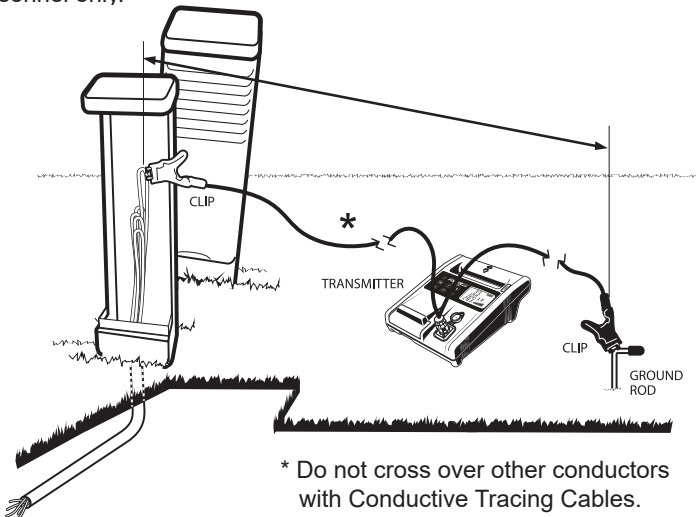

Figure 11. Direct Connection
- STEP 4.** Push the Ground Rod into the soil at a 90° angle to the direction of the utility. Do not cross over other conductors with Conductive Tracing Cables. See Figure 11 on page 34.